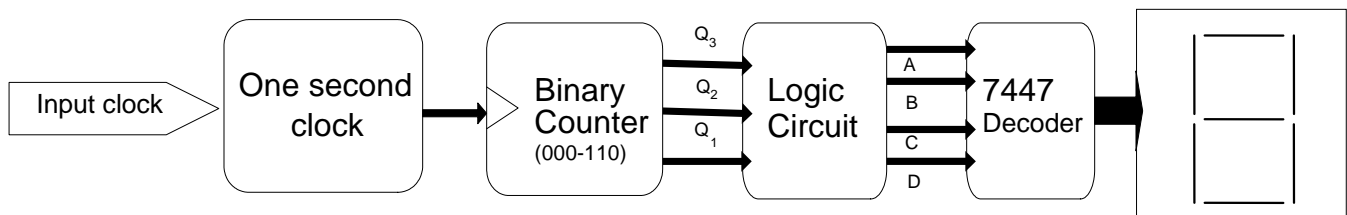

Figure 2: Block Diagram
Your logic capstone project will consist of the following devices (See Figure 2):
- Wire the outputs of the BCD generator to the 7447 and connect the outputs of the 7447 to output pins using Figures 2 and 4 as guides. You may delete the ABCD output pins leftover from Section IV from the circuit at this time